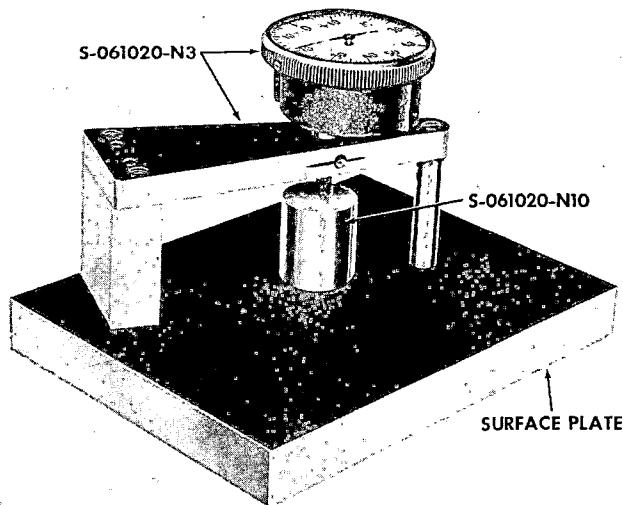
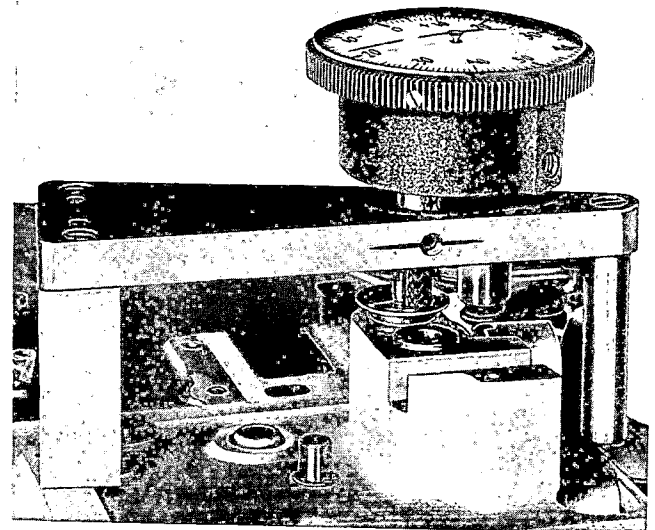

Figure 8. Setting the Camshaft Indicator Gage
Figure 9. Setting Camshaft with Gage
a. On 614CB, CBM and CBRM projectors, lubricate wick (65) and pad (68B) before assembling. Refer to paragraph 96 for 614CD lubrication parts reassembly.
b. Screw shaft (59) into pivot bar (55) and attach bar to mechanism plate with screw (56) and washers (57 and 58). Spring washer (57) must be installed with cup face toward bar. Hold collar (50), beveled face up, in place between arms of bracket (52) and slide bracket and collar up onto shaft (59). Secure bracket with screws (53) and lock washers (54). Slide collar up until it touches bracket and tighten set screws (51).
c. Fasten bracket (26) to mechanism plate with screws (27) and lock washers (28). Do not tighten screws. Insert drive shaft (46) through bracket and into bearing in mechanism plate. Make certain that drive shaft is aligned squarely in both bearings, shifting bracket (26) if necessary. Then tighten screws (27). Withdraw shaft from mechanism plate to permit installation of collar (41), gear (43) and washer (45) on shaft. Press shaft back into mechanism plate until end of shaft is flush with front face of mechanism plate bearing. Press gear and washer toward mechanism plate until washer bears against flange of bearing. Tighten two set screws (44) securely. Move collar (41) until it touches bearing in bracket (26) and tighten its set screws (42) securely. Shaft should turn freely with a minimum end play of 0.003-inch. Secure sprocket (24) to shaft with set screw (25).
d. Fasten mounting plate (39) to mechanism plate with three screws (40). Install shim washers (35) on front camshaft (34) and insert camshaft through its bearing in the mechanism plate. Place master block (Tool No. S-061020-N10) on surface plate with front camshaft indicator gage (Tool No. S-061020-N3) positioned above it as shown in figure 8. With stem of gage just touching the master block, adjust indicator until pointer reads "zero". Place indicator gage on machined surface of mechanism plate as shown in figure 9. With stem of gage just touching end of front camshaft, indicator should read "zero". Add or remove shims (35) on front camshaft until condition is met.
e. Install nylon shim (33A), shims (33) and gear (29) on front camshaft, aligning slot in gear with slot in camshaft. Assemble lock ring (32) into slot in gear and camshaft and install screw (30) and lock washer (31). Camshaft must revolve freely with no noticeable end play. If necessary, shim washers (33) must be added or removed until these conditions are met.
f. Assemble rear camshaft (38) and gear (36) to mechanism plate. Hub of gear must face away from mechanism plate. Tighten set screws (37) just enough to hold the gear.
g. Before installing shutter (49), check to make certain that heads of screws (49B) are centrally located in their elongated slots and are tightly screwed in